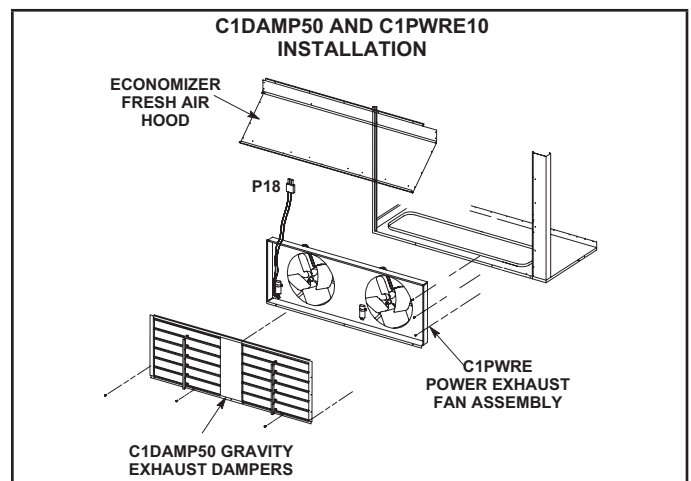

FIGURE 36
C1DAMP50 dampers (figure 36) are used in downflow and LAGED(H)18/24 are used in horizontal air discharge applications. LAGED(H) gravity exhaust dampers are installed in the return air plenum. The dampers must be used any time an economizer or power exhaust fans are applied to KCC series units.
Figure 36 shows the location of the C1PWRE. See installation instructions for more detail.